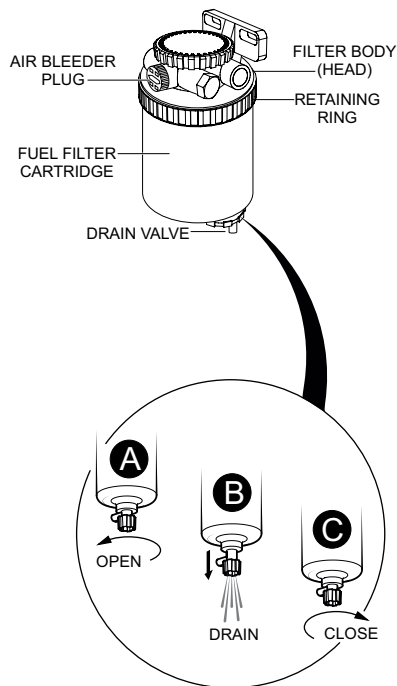

Figure 71. Draining Fuel Filter
1. Loosen the air bleeder plug (Figure 71) on the fuel filter body.